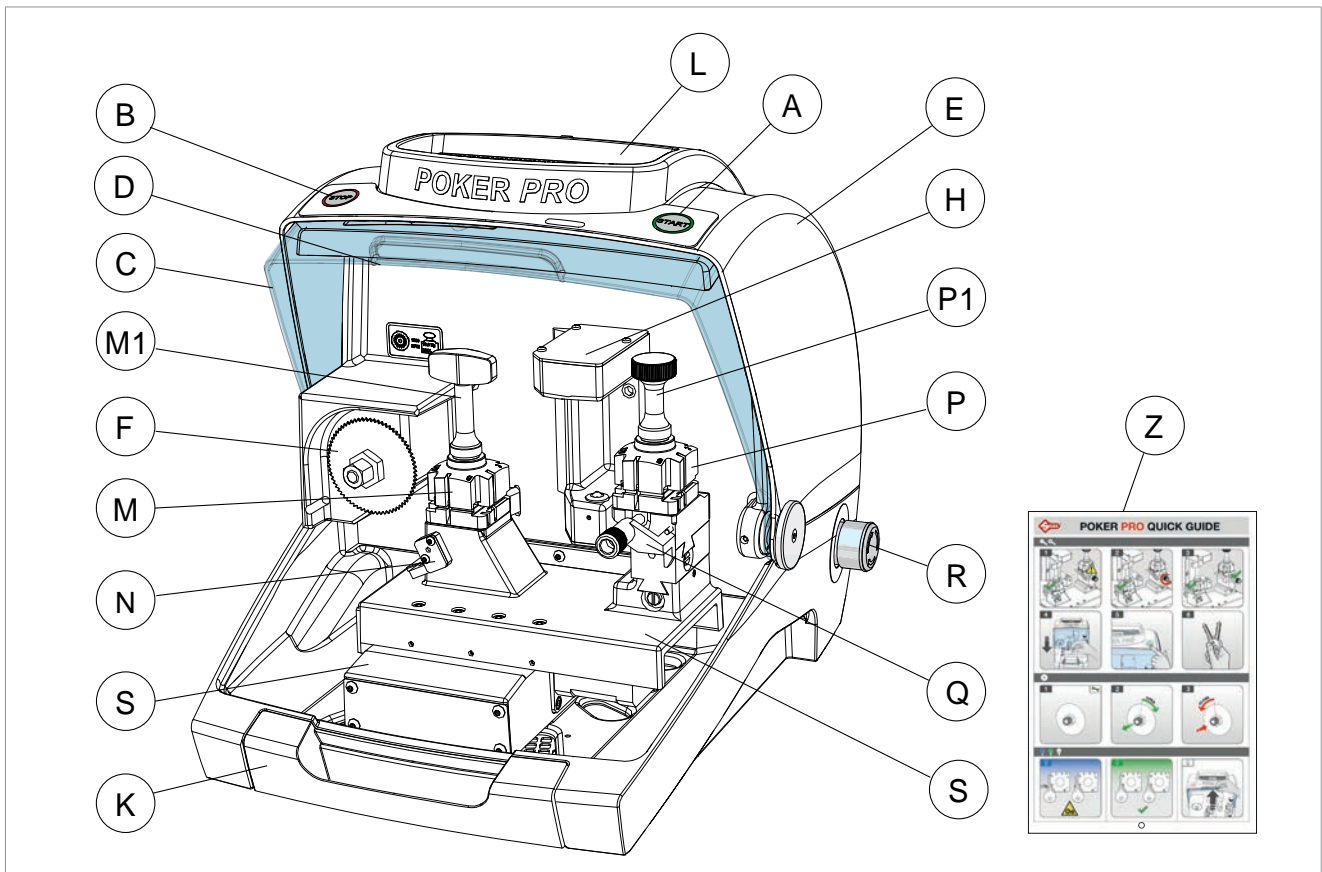

Fig. 3
Use the red emergency button (R) (Fig. 3), located on the right-hand side of the machine to stop the machine immediately in the event of serious malfunctioning or a hazard for the operator.